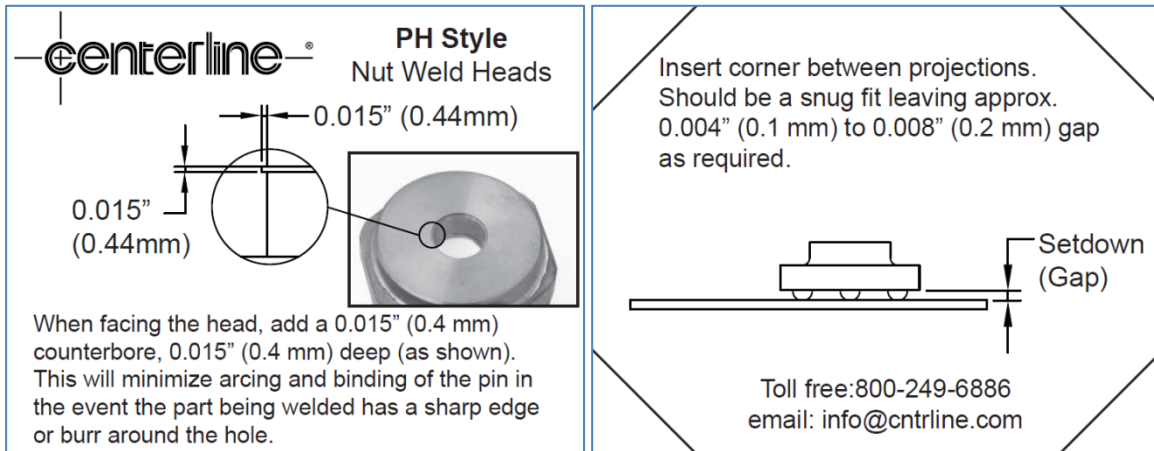

Figure 2
- For **PH Style insulated heads**, follow the guidelines shown in Figure 2. Be sure to machine from the inside bored hole edge to the outside edge of the head, as previously outlined in Step 3.